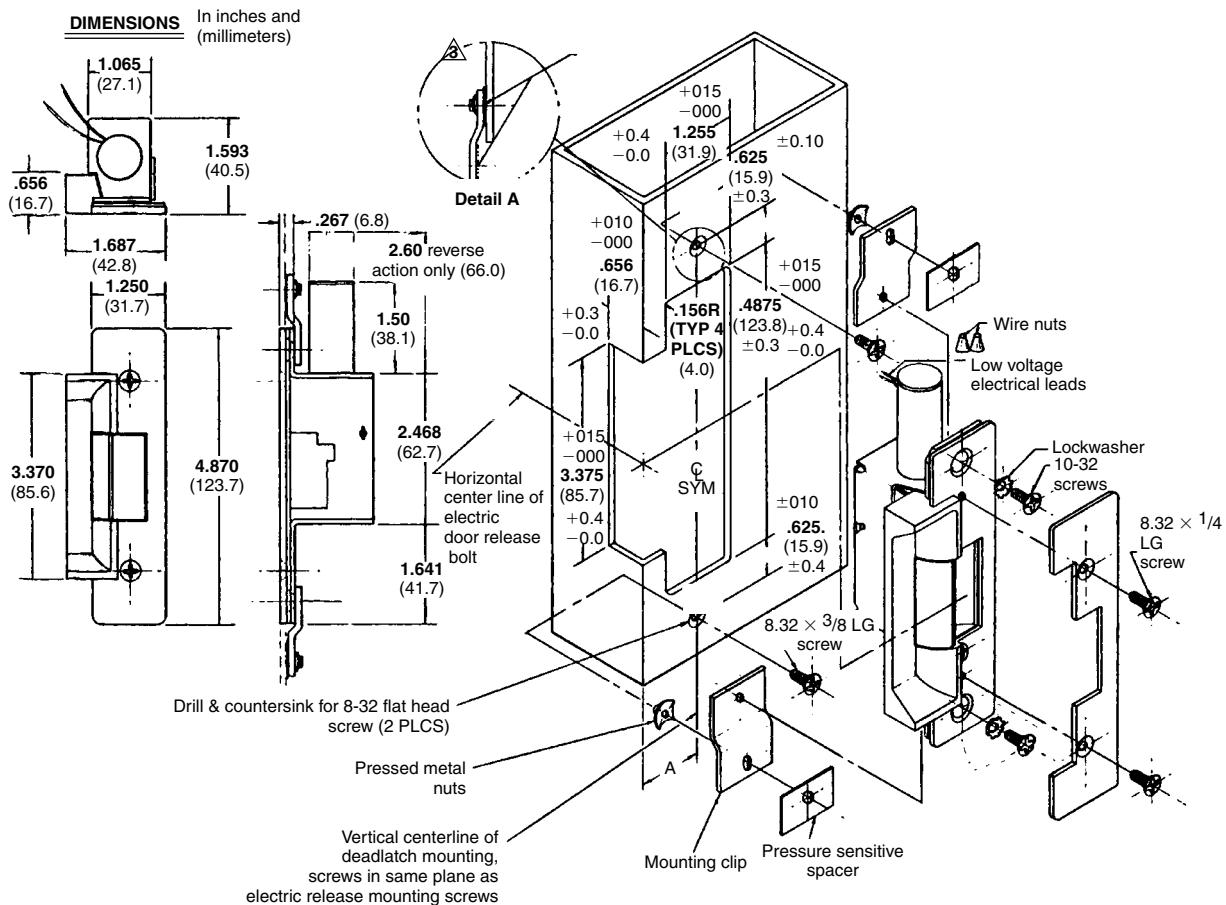

Figure 19.5 Installation details for a key-in-knob latch unit. (Adams Rite Mfg. Co.)
1. Prepare the door jamb as shown in Fig. 19.5.